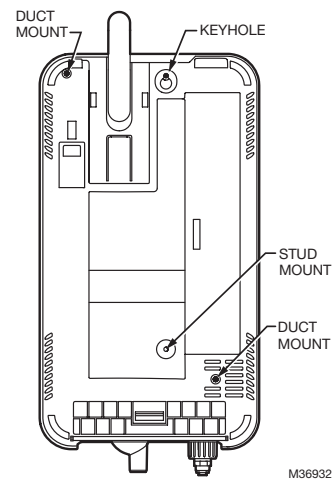

Fig. 4. Mounting locations (rear view).
1. Remove the humidifier cover and pull out the cylinder. Insert the top screw until 1/4 in. (6 mm) is exposed. Hang the humidifier via its keyhole on the screw head (see Fig. 4).
2. After making sure the humidifier is level, affix it to the stud with another screw at the lower stud-mount location (Fig. 4).
2. Insert the top screw until 1/4 in. (6 mm) is exposed. Hang the humidifier via its keyhole on the screw head (see Fig. 4).
3. After making sure the humidifier is level, secure it to the duct using two screws at the duct-mount locations (Fig. 4), and then replace the cover.